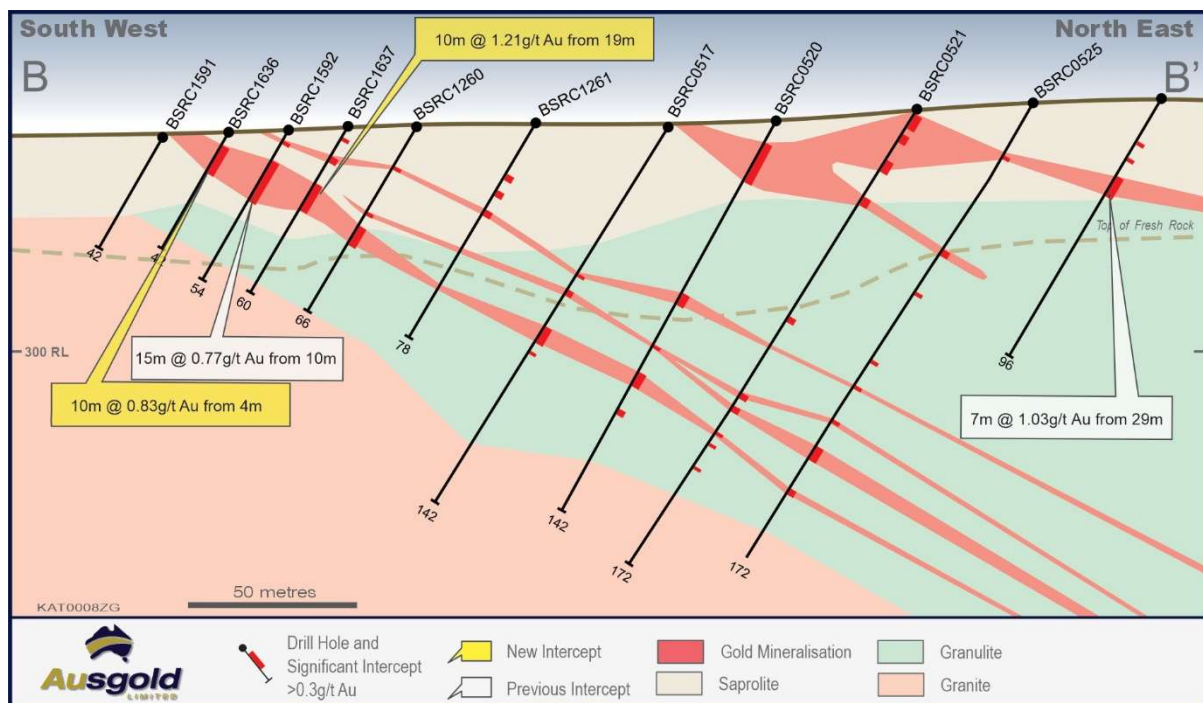

Figure 4 – Jackson Cross-section B-B'
- 10m @ 1.21g/t Au from 19m including 5m @ 1.87g/t Au from 19m in BSRC1637 (Figure 4)
- 10m @ 0.83g/t Au from 4m including 1m @ 1.02g/t from 5m in BSRC1636 (Figure 4)